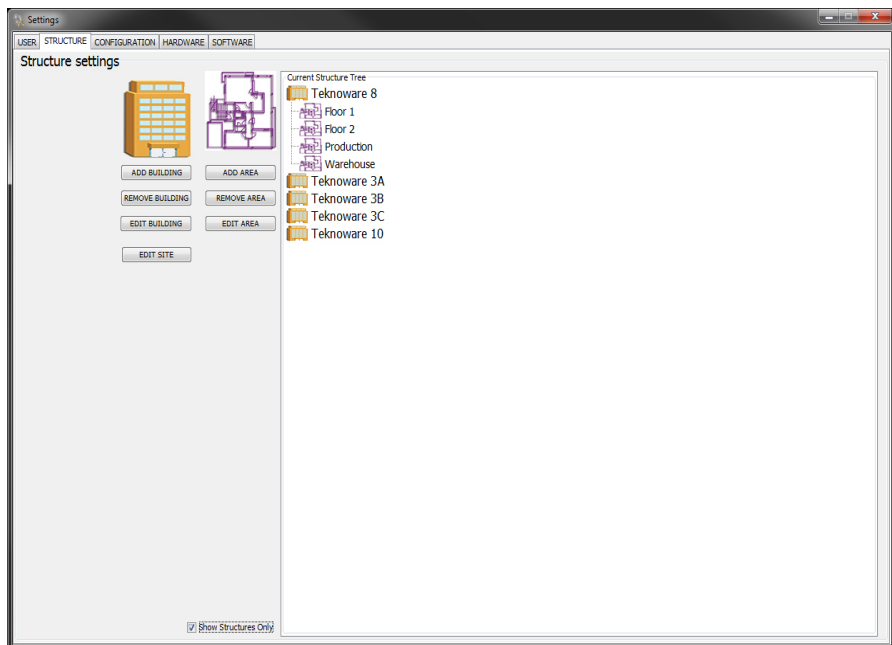

Figure 8. SETTINGS window, STRUCTURE tab
7. In the Figure 8 there is an example of the Teknoware factory in Lahti, Finland, divided into simple categories. The entire Site is divided into 5 buildings. The Teknoware 8 building, which is clicked open in the image, is divided into 4 Areas: 2 floors of the main building, and 2 sections of the production hall (production, warehouse). See the next chapter to learn how these categories can be set for easy access to any CBU or luminaire in the User View.